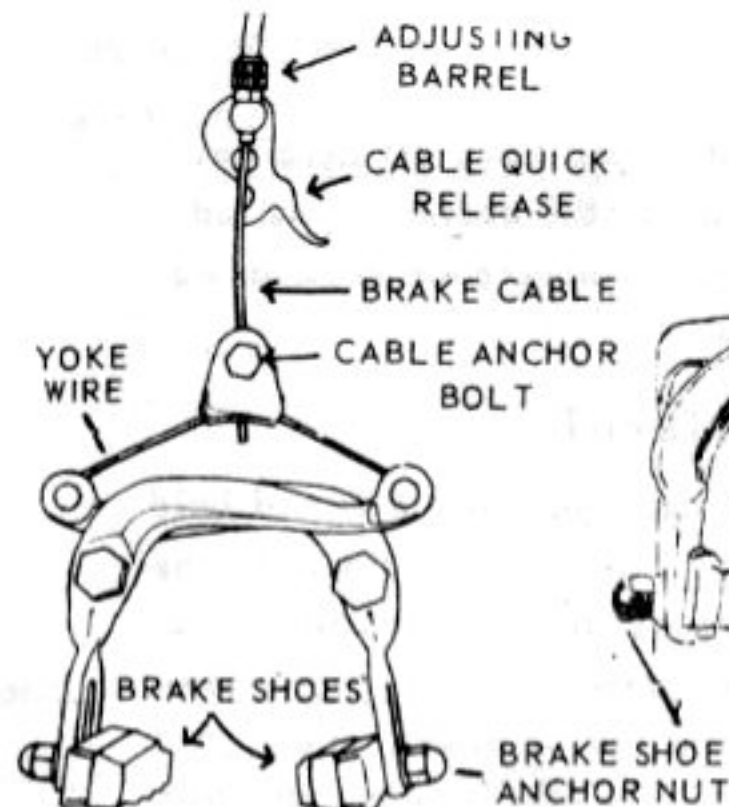

FIGURE 8
1. On the brake cable hanger (see figure 8 - page 9)